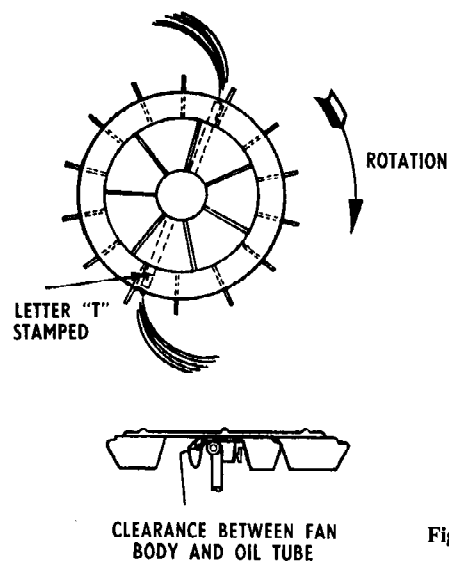

Figure 10
**Oil Distributor** Inspect the cone of the distributor to see if it is clean and has not been damaged or nicked. Check the fan on the distributor, making certain that the oil tube lines up with the letter 'T' stamped on the top side of the fan. Replace the distributor in the motor and spin it to make sure that it is free (see Fig. 10).
Take out all the grilles and thoroughly clean. Remove rotor assembly by lifting vertically until it is clear of the motor. Cover rotor bearing with a rag. Clean and examine rotor to see that it has not been damaged. Check that the fan is correctly lined up with the oil tube as shown in Fig. 10. All the internal surfaces of the boiler, together with the retarder, should be cleaned of deposit with a cleaning brush.